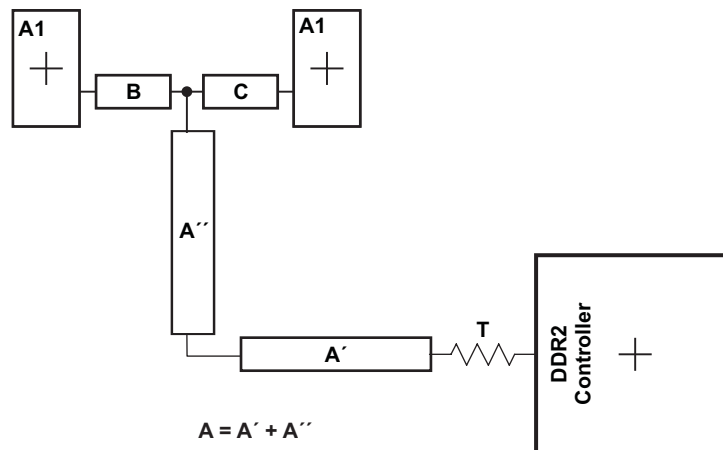

Figure 8-53. CK and ADDR_CTRL Routing and Topology
Figure 8-53 shows the topology of the routing for the CK and ADDR_CTRL net classes. The route is a balanced T as it is intended that the length of segments B and C be equal. In addition, the length of A ($A'+A''$) should be maximized.
(1) The length of segment $A=A'+A''$ as shown in Figure 8-53.
(2) Center-to-center spacing is allowed to fall to minimum (w) for up to 500 mils of routed length to accommodate BGA escape and routing congestion.
(3) CACLM is the longest Manhattan distance of the CK and ADDR_CTRL net classes.